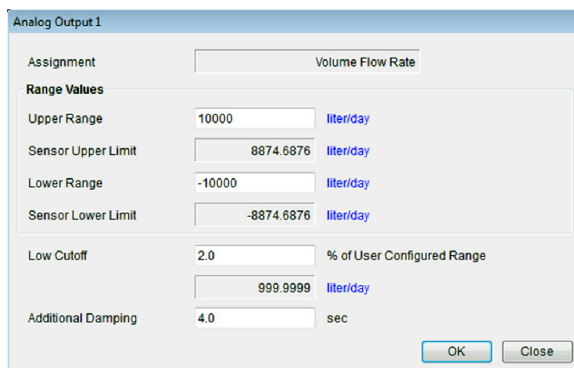

Figure 2.5—Analog Output 1 dialog
3. Enter upper and lower range values. The span required depends on the operating conditions. Entries must be between the Sensor Upper Limit and Sensor Lower Limit, as shown in Figure 2.5.